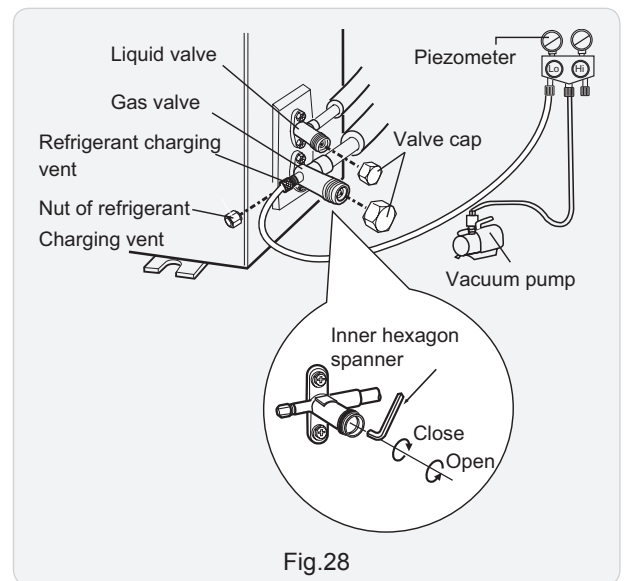

Fig.28
- (1) Remove the valve caps on the liquid valve and gas valve and the nut of refrigerant charging vent.
- (2) Connect the charging hose of piezometer to the refrigerant charging vent of gas valve and then connect the other charging hose to the vacuum pump.
- (3) Open the piezometer completely and operate for 10-15min to check if the pressure of piezometer remains in -0.1MPa .
- (4) Close the vacuum pump and maintain this status for 1-2min to check if the pressure of piezometer remains in -0.1MPa . If the pressure decreases, there may be leakage.
- (5) Remove the piezometer, open the valve core of liquid valve and gas valve completely with inner hexagon spanner.
- (6) Tighten the screw caps of valves and refrigerant charging vent.(As show in Fig.28)
- (7) Reinstall the handle.